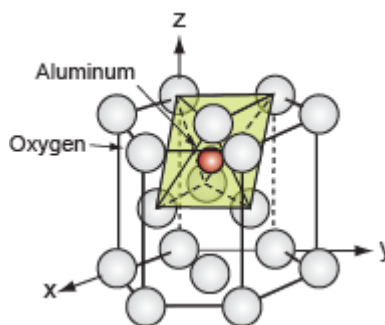

Figure C39. The M atoms of the corundum structure lie in the octahedral holes of a HCP oxygen lattice.
A number of oxides have the formula M_2O_3 , among them Alumina, Al_2O_3 . The oxygen, the larger of the two ions, are close-packed, in an HCP stacking. The M atoms occupy two thirds of the octahedral holes in this lattice, one of which is shown for alumina, filled, in Figure C39. Locating the rest is the subject of Exercise E38, below.
- E38.** The symmetry elements of the HCP structure are $3m$. Use this information to infer how many octahedral holes are contained in the HCP unit cell of Figure C39. If all were occupied by M atoms, what would the formula of the oxide be?
E38. The HCP lattice has a triad axis normal to the close packed planes. Rotation about this axis thus returns the lattice to itself 3 times per full revolution. This means there are three octahedral holes like that in Figure C39. The lattice also has a mirror plane – it is the close-packed plane. Reflecting about this plane creates three more octahedral holes. Thus the unit cell contains six octahedral holes.